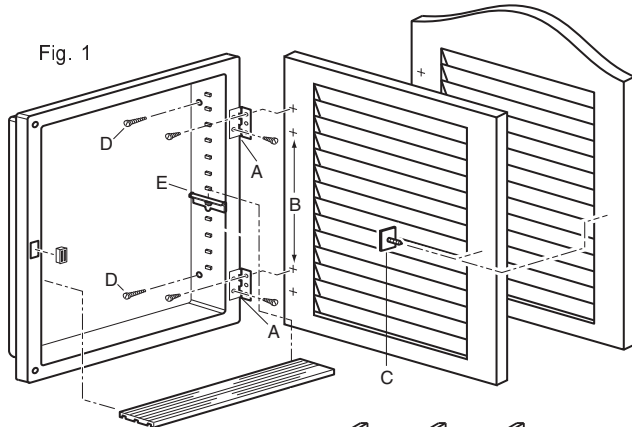

Fig. 1
- Attach two (2) butt hinges to body using four (4) #6 x 3/8" screws from hardware package. (Fig. 1-A)
- Place finished door against butt hinges and align with starter marks on door. (Fig. 1-B) Secure door to hinges with four (4) #6 x 1/2" screws from hardware package.
- Place flat side of striker plate (from hardware package) on center of magnet. (Fig. 1-C) Close door against striker plate screw. (This will position striker plate on the door). Open door and screw striker plate into door.
- Insert cabinet into wall opening in plumb and centered position. Use a carpenter's level and shim corners of cabinet if necessary. Secure to wall studs through the 4 mounting holes inside cabinet (screws provided) (Fig. 1-D)
- Place shelf brackets at desired heights. Place shelves on brackets. (Fig. 1-E)